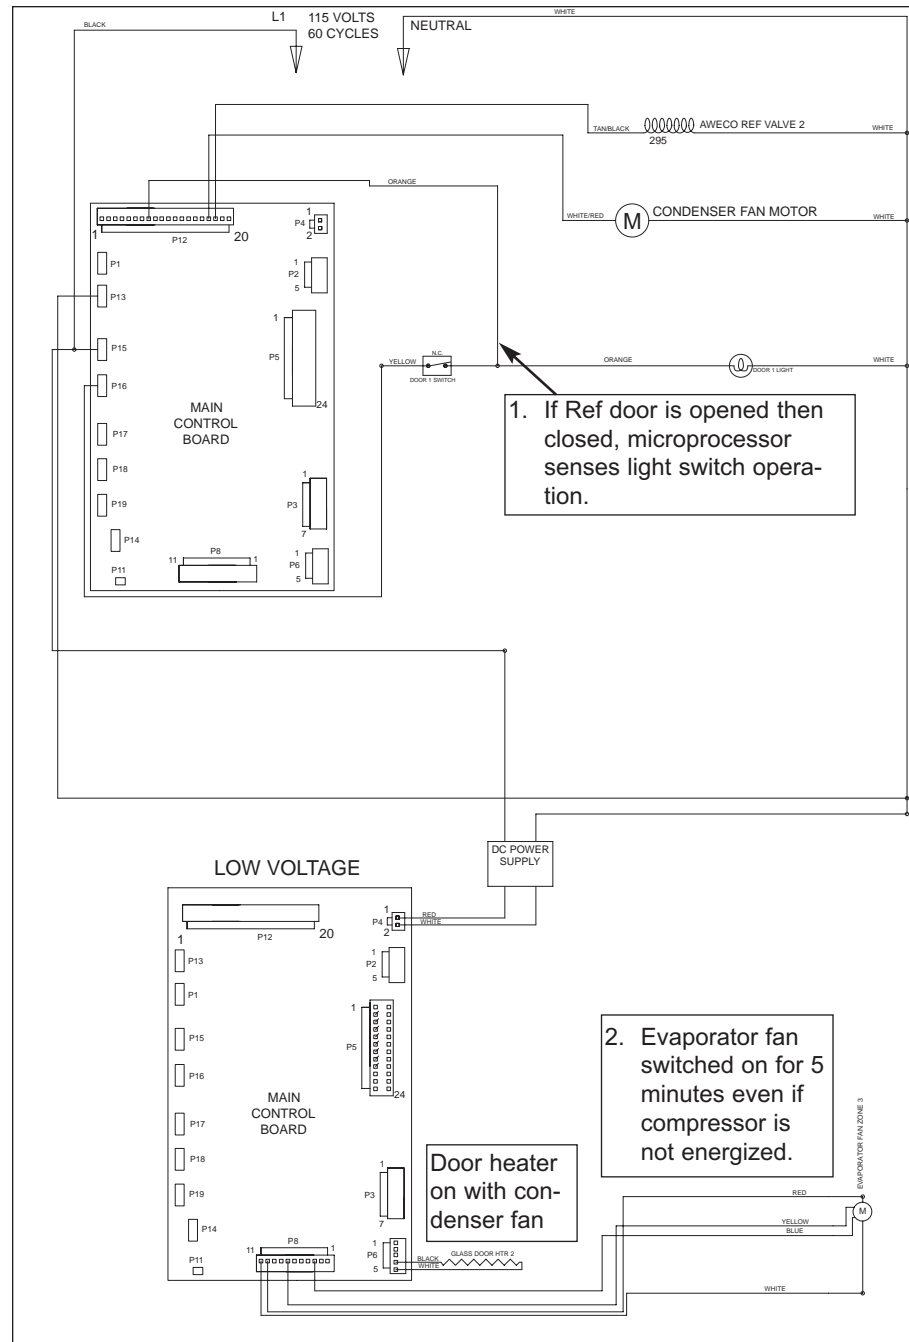

Figure 3-23. Signal Trace Schematic of Refrigerator Evaporator Fan Operation & Door Heater
On units produced with glass doors, the microprocessor detects when the refrigerator door is opened, via the light switch, so when the door closes, the evaporator fan is energized for five (5) minutes, regardless of compressor operational status. This draws any warmer moist air away from the door glass. (See Figure 3-23). To further assist in minimizing condensation on the glass, the door is equipped with a braided wire heater around the glass perimeter.